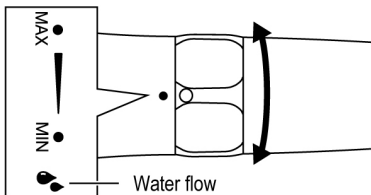

Fig. 10
- The powder spray volume can be adjusted with the flow volume adjustment ring. Start by setting it to "MIN" then adjust according to the application and patient condition (Fig. 10).